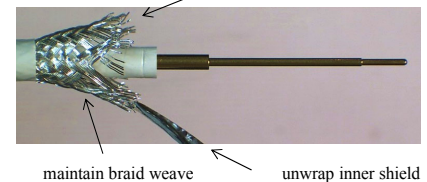

Figure 5
- 6) Inspect and clean connector body as needed. Install the connector body over the dielectric and under the shields until the center contact is fully seated (Fig. 5). Verify the center contact is fully seated; the end of the center contact should be .186" ± .015" from the front end of the connector body (Fig. 5).
- 7) Smooth all braids and helical strip down over the rear of the connector body covering the knurl, maintain braid weave as much as possible (Fig. 5). Trim off stray braids at the shoulder (Fig. 5).
- 9) Verify center contact position prior to crimping (Fig. 5). Crimp ferrule with M22520/5 - 01 hex crimp tool, and M22520/5-41 crimp die set, cavity A (.290" hex). Do Not crimp on connector shoulder. Apply secondary crimp (aligned with the first) to achieve a crimp over the full length of the crimp ferrule (Fig. 6).